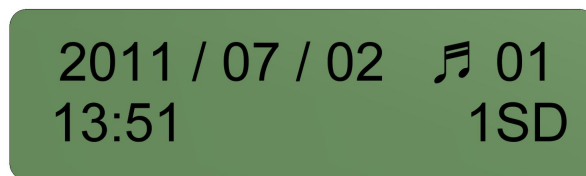

Figure 10: Alarm records inquiring page
① Press the key  to enter into the page of the latest alarm record , that will show the time 'year, month, day, hour and minute' of the latest alarm record(see Figure 10):